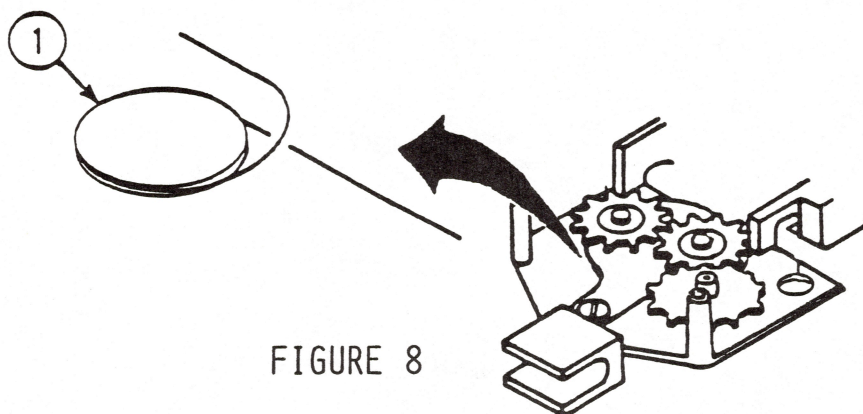

FIGURE 8
2. Work the wire around the pulley gear as shown (see Figure 8, #1).